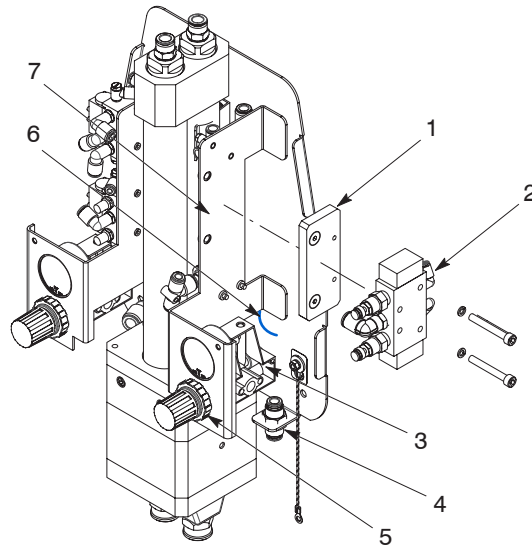

Figure 3 Disassembling Side of Pump
5. See Figure 3. Remove and discard valve (2) with tubing L and M, adapter plate (1), and hardware.